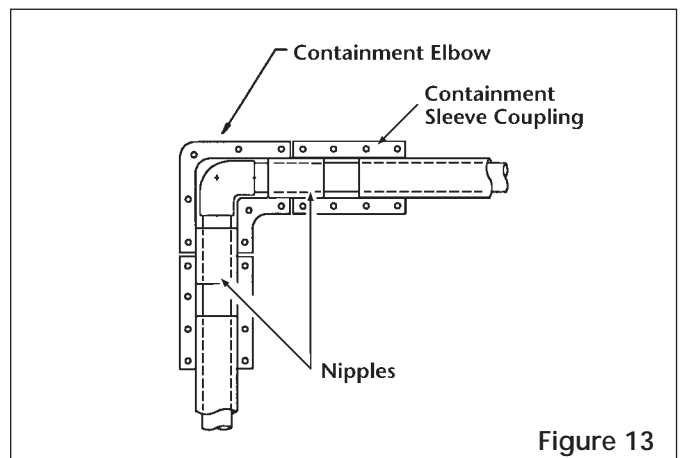

Figure 13
- d. Position the nipples between the new containment fitting and a containment sleeve coupling as shown in Fig. 13. It may be necessary to remove additional sections of the containment pipe to provide clearance for the coupling. Repeat the procedure for sanding nipples on the cut end of the containment piping.
- e. Bond the fitting and sleeve couplings into place as shown in Fig. 13.